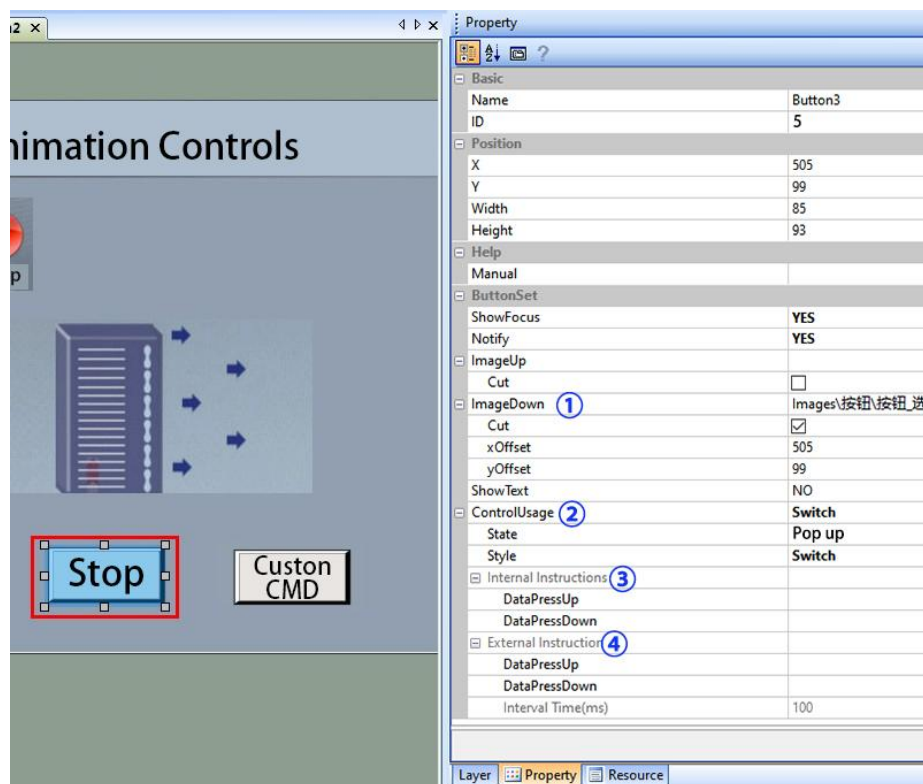

Figure 2-6 Button Control-Switch Type Configuration Diagram
For example, as shown in (1) (2) in Figure 2-6, the user needs to use the "Stop Running" button as a switch function, and first set the entire button to the touch area, then select Touch Usage → Switch Description in the Properties window; Operation style → switch; Press the Picture → button to select the UI, and finally run the "Virtual Serial Screen" to verify the effect.